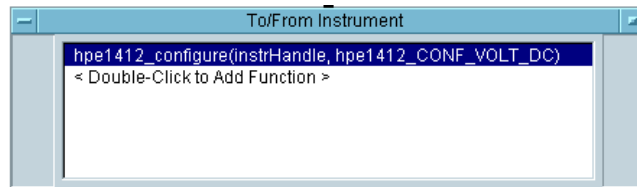

Figure 3-34. DC Voltage Function in *VXI*plug&play Object
8. Click OK. The To/From Instrument object now contains an entry for `hpe1412_configure(instrHandle, hpe1412_CONF_VOLT_DC)`, as shown in Figure 3-34.